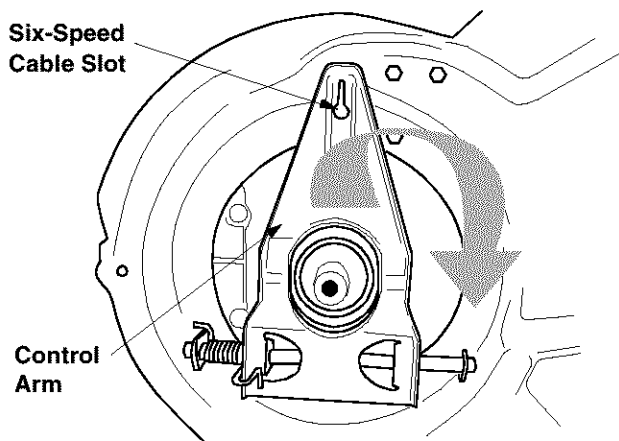

Figure 24
- Pivot the control arm back to its original position and reinstall the six speed cable into the slot. See Figure 24.